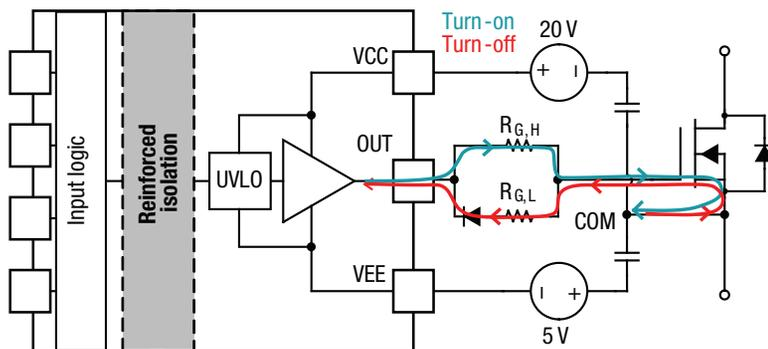

Figure 8: Driver with a single output
**Figure 8** shows a single-output driver. In this case, a diode separates the control for turnon and turnoff. This increases bill-of-materials cost, takes up more space on the gate driver board and adds